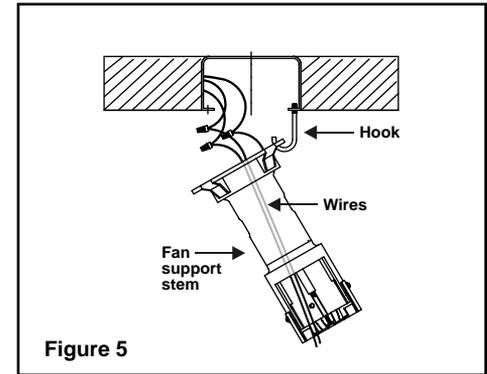

Figure 5
2. Place the fan support stem onto the hook and allow it to hang freely. (Fig. 5)
3. Place the 2 wires into the fan support stem and make the wire connection; connect the black (hot) wire from the ceiling to the black wires from the fan support stem. Connect the white (neutral) wire from the ceiling to the white wire from the fan support stem. Connect the ground wire from the ceiling to the ground wire from the fan support stem. Secure the wire connections with the plastic wire nuts provided. After the connections are made, check to make sure there are no loose strands. As an additional precaution, we suggest to secure the plastic wire connectors to the wires with electrical tape. (Fig. 5)